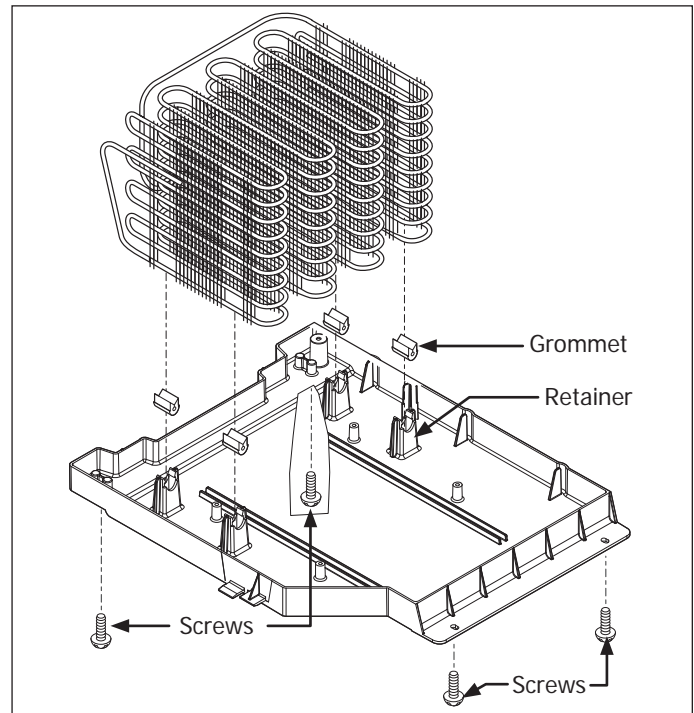

Figure 5-27. Condenser Drain Pan Removal
4. Using a short phillips head screwdriver, extract the two screws securing the drain pan to the bottom of the unit frame. (See Figure 5-27)
7. Using a short phillips head screwdriver, extract the two screws securing the drain pan to the bottom of the unit frame. (See Figure 5-27)